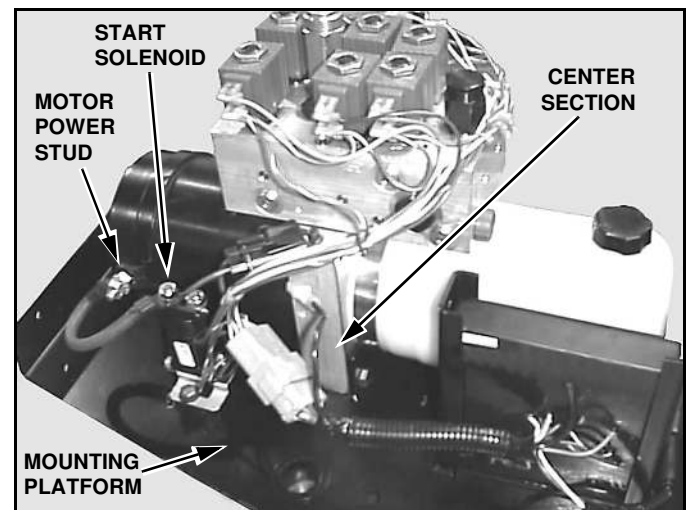

Figure 2-4
4. Remove the red power lead from the motor power stud. Remove the black wire of the power harness and the black ground wire to the control receiver from the 3/8" screw in the center section of the power unit. Disconnect the 12-pin connector of the power unit valve wire harness. Remove the red/black wire and the red wire of the power harness from the 5/16" terminal of the start solenoid. Remove the red/white wire and the brown wire from the #10 terminals of the start solenoid. Mark wires and terminal locations to aid in re-connecting the wires after the oil change. (See Figure 2-4).
6. Remove the two 5/16" cap screws that fasten the center section of the power unit to the pump platform. (See Figure 2-4).